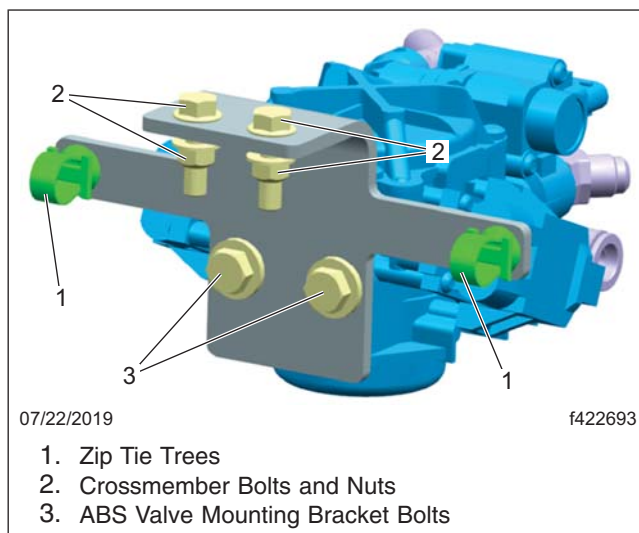
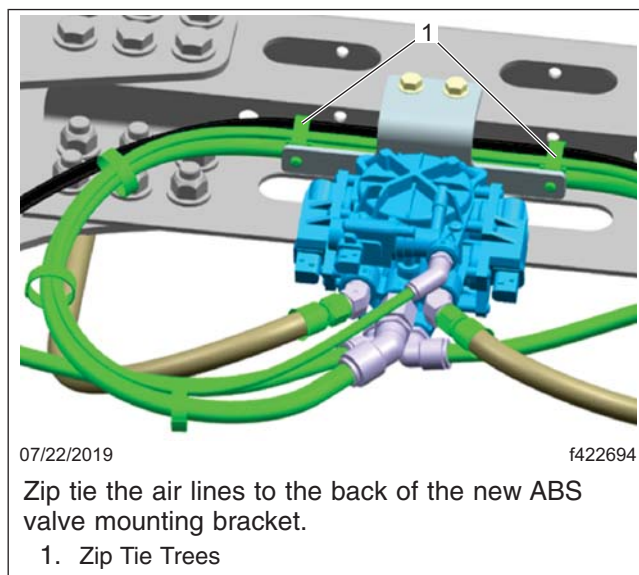

Fig. 4, New ABS Valve Mounting Bracket (with zip tie trees)
Fig. 5, Air Lines Routed Behind the New ABS Valve Mounting Bracket
8. Using the bolts removed earlier, install the ABS valve on to the new mounting bracket. Tighten the bolts 60 lbf·ft (81 N·m). See Fig. 4.
9. Zip tie the air lines to the back of the new ABS valve mounting bracket. See Fig. 5.
10. Install the new ABS valve mounting bracket on the crossmember. See Fig. 4 and Fig. 5. Tighten the bolts 35 lbf·ft (47 N·m).
11. Zip tie the air lines to ensure they are not loose or contacting any components. See Fig. 5.